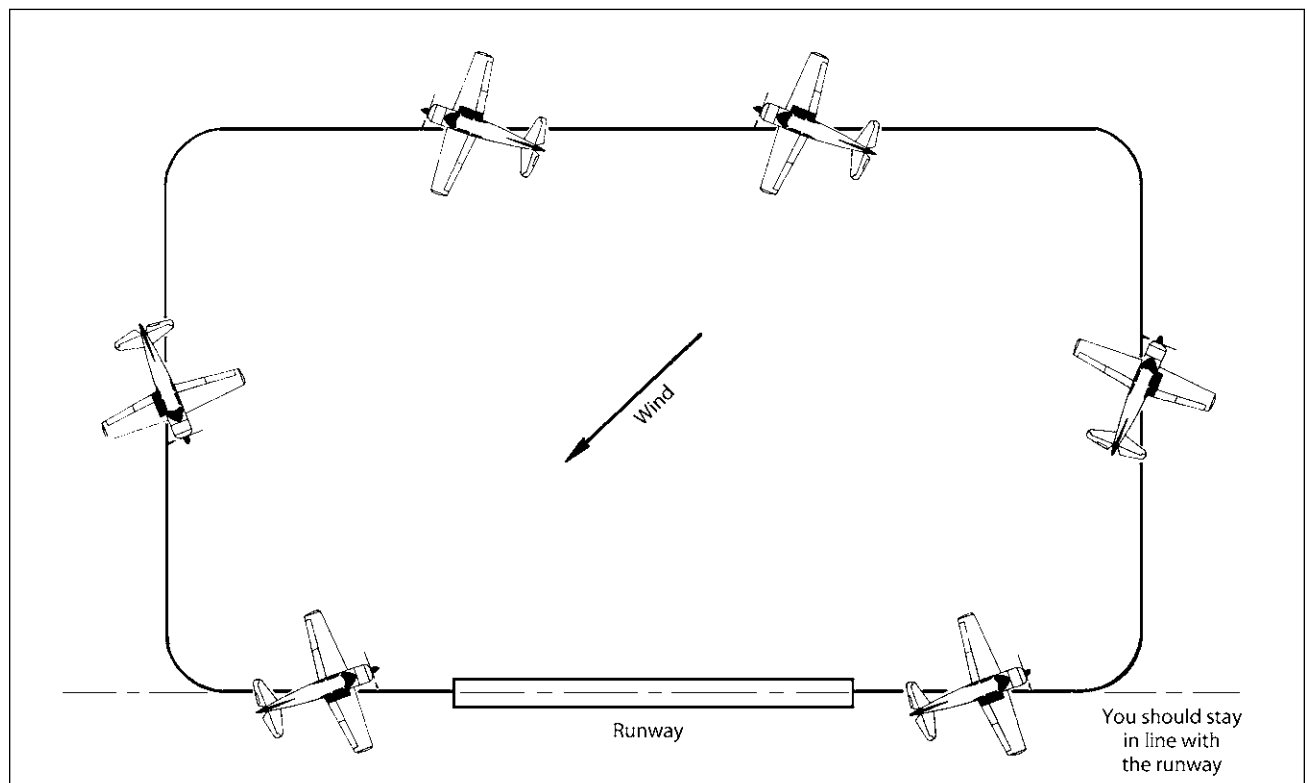

Figure 13-31. The rectangular course as applied to the airport traffic pattern.
A crosswind slightly complicates matters for all legs of the traffic pattern. This is where the rectangular course pays off (Figure 13-31).
If there is a crosswind as shown in Figure 13-31, you will have to make corrections for wind on the crosswind, downwind, and final legs as well as that expected on base.
(B) As you are rolling out of the turn on the base leg, you look for the runway to get set up for the turn onto final (uh-oh). A tailwind component on base (Figure 13-31) can make matters worse.